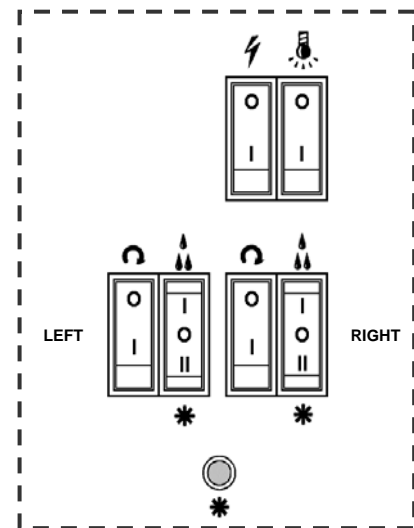

Figure 12
- To operate, press main power switch and agitator switch to **ON** position (Figure 12). **NOTE: The agitator switch must be to ON position before setting to liquid or slush mode.**